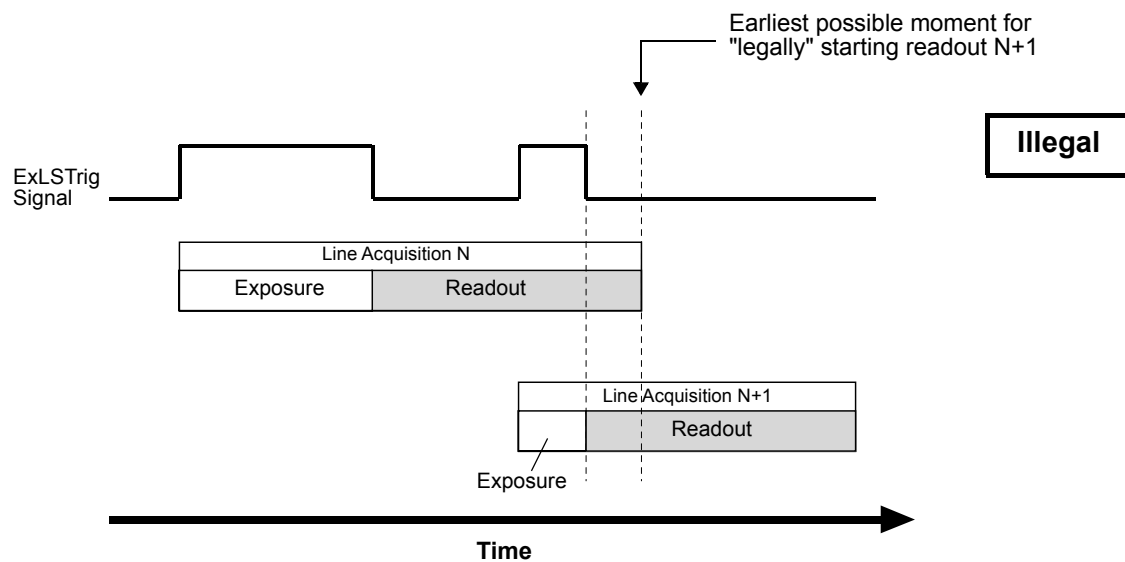
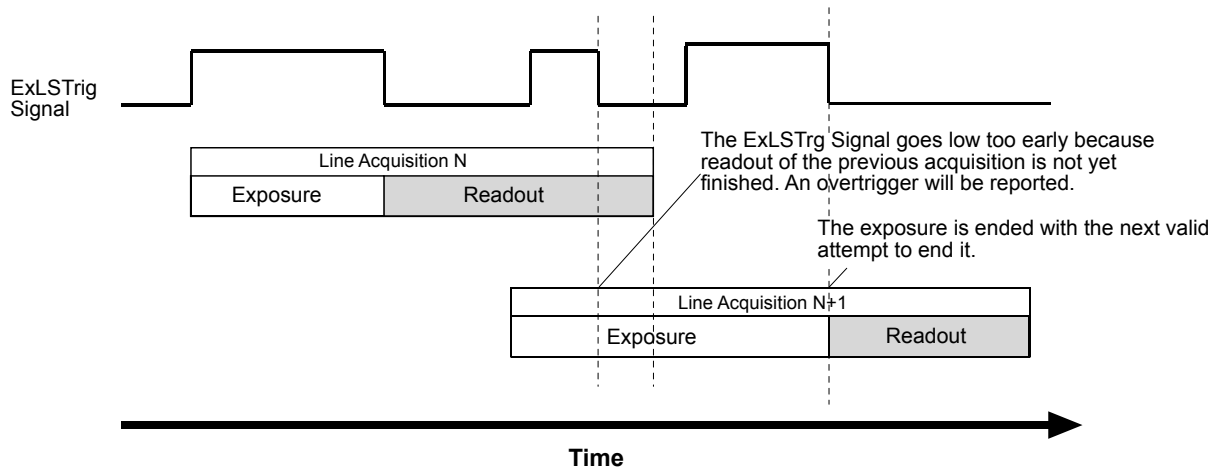

Fig. 24: Exposure N+1 Illegally Ends Before Readout of the Preceding Line Acquisition N Has Ended; Applies to Trigger Width Exposure Mode Only
Fig. 25: Extension of Exposure N+1 After the Illegal Attempt of Ending It Too Early; Applies to Trigger Width Exposure Mode Only
Certain attempts of triggering overlapped line acquisition are illegal and do not result in line acquisitions: When a line start trigger signal attempts an illegal line acquisition the trigger signal will be ignored and, accordingly, no line acquisition will be performed. In addition, the trigger signal will be reported as an overtrigger (see also Section 8.10.2 on page 132). Illegal triggering and impossible overlaps are shown in Fig. 23 on page 73 and Fig. 24 on page 73.
The exposure overhead (see Fig. 23 on page 73) is part of every exposure process. For simplicity, it is omitted from the other figures illustrating exposure and readout (see, for example, Fig. 24 on page 73).
- The line start trigger goes low to end the exposure for line acquisition N+1 before readout for acquisition N has ended (premature exposure end; see Fig. 24 on page 73). This would result in the illegal overlap of two readouts (in trigger width exposure mode only).
When the line start trigger has illegally gone low to end the exposure for line acquisition N+1 before readout for acquisition N has ended (in trigger width exposure mode; see Fig. 24), the camera will behave as shown in Fig. 25: The camera will extend the exposure and end it when the next valid trigger for ending exposure occurs.